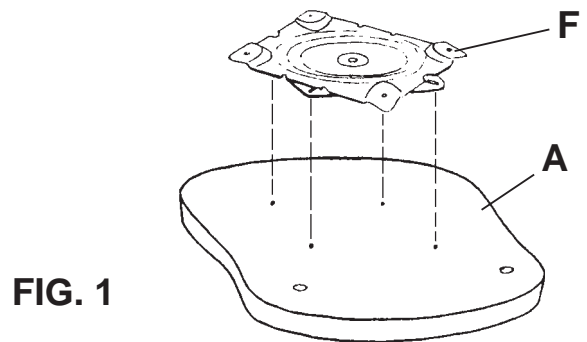

FIG. 1
- 1) Turn the top of the swivel (F) approximately 1/8 turn in relation to the bottom of the swivel. Center the swivel on the bottom of the seat (A) as shown in FIGURE 1. The holes for the screws in the swivel will line up with the indentations on the seat. Remove the swivel and drill 1/8" diameter pilot hole 1/2" deep, in the center of each indentation. (**Do not** attach the swivel at this time.)